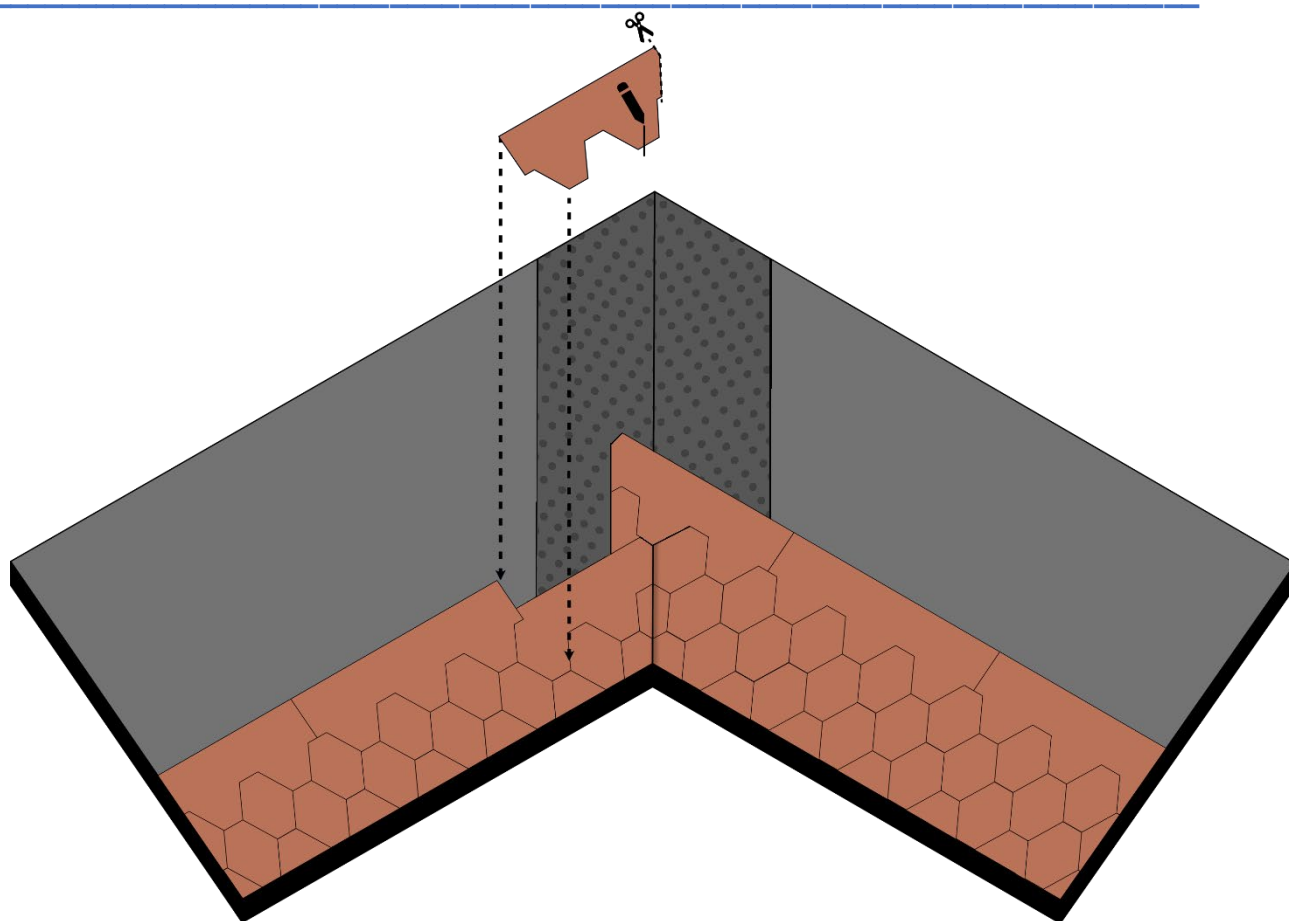

Fig. 21 - Shingles installation by torch at the valley
- Once the installation of the shingles of the entire pitch and for the entire length of the watershed has been completed, move to the adjacent pitch. Start installing the shingles from the starting row and continue in successive rows. Fix them with the flame of a torch, always heating the membrane and not the shingle element. The last shingle in each row should reach at least the valley line. Once the installation of the shingles is completed also for the second pitch, mark the axis of the valley. Then, proceed to cut the shingles of the second pitch following the valley line, as for the nail installation Cross-cut the top edge of the shingle to the valley, so as to convey the descending water along the axis of the valley. Lift the shingles of the second pitch at the valley line, one at a time and apply Bitustick at the bottom, for their final bonding – Fig. 21.